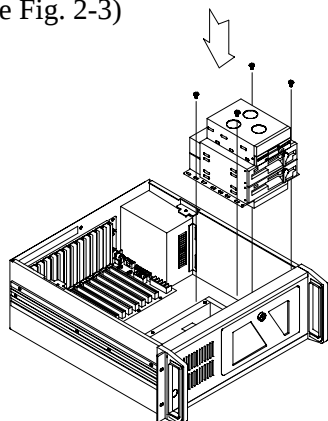

Figure 2-2: Removing the drive bay
1. Remove the four outer screws which mount the shock-resistant drive-bay to the chassis. (See Fig. 2-2)